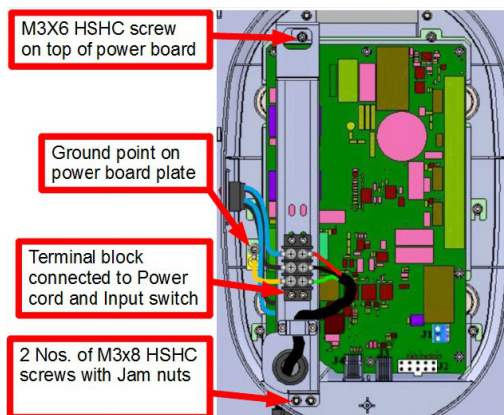

Figure 81
- Disconnect the "Live(Blue) and Neutral(Black) wires(Ring terminals) of switch" from the terminal block fixed on the power board clamp using phillips screw driver as shown in Figure 81 .
- Disconnect the GND(ring terminal) wire from the GND terminal on power board plate located just below the switch by removing the M3X6 HSHC screw using 2.5mm allen key as shown in the Figure 81 .
- Remove the power board clamp from the base unit by removing 1 M3X6 HSHC Screw on top side of the power board using 2.5mm allen key and 2 M3X8 HSHC screws, plain washers and Jam nuts (screws will be inserted from rear side and nut with washer to be fixed from front side) using 2.5mm allen key and 5.5mm nut driver at the locations shown in Figure 81 .
- Fix back the power board clamp to the base unit by fixing 1 M3X6 HSHC Screw on top of the power board using 2.5mm allen key and 2 M3X8 HSHC screws, plain washers and Jam nuts (screws to be inserted from rear side and nut with washer to be fixed from front side) using 2.5mm allen key and 5.5mm nut driver shown in Figure 81 .
- Connect the GND wire to the GND terminal on power board plate just below the switch using 1M3X6 HSHC screw (with washers) using 2.5mm allen key as shown in the Figure 81 .
- Connect the "Live(Blue) and Neutral(Black) wires(Ring terminals) coming from switch to the terminal block fixed on the base unit clamp using phillips screw driver as shown in Figure 81 .